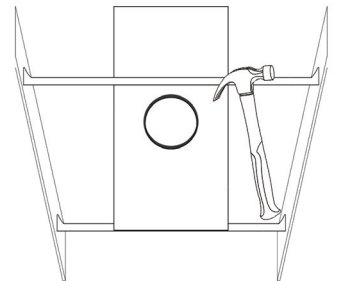

Fig. 1
- Position fixture temporarily by hammering “Nail” into joists. (Fig.1) Then secure permanently with nails. Hangers should be level with bottom of joists.